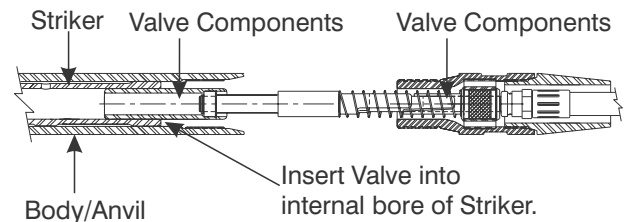

Figure 9-50. Insert Valve into Body/Anvil and Striker.
9. Insert the Valve (1) into the internal bore of the Striker (4) and thread the End Cap (8) into the Body/Anvil (1). See Figure 9-50.